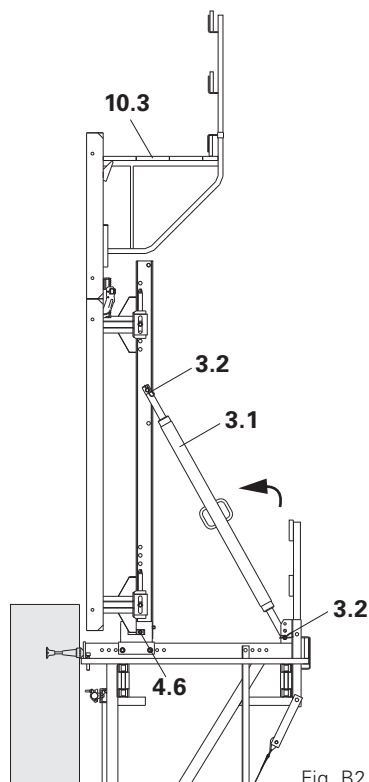

Fig. B2.19
5. Fix Adjustable Brace 164-224 (3.1) to bracket using bolts and cotter pins (3.2). Spindle to approx. length and attach to strongback. (Fig. B2.19)